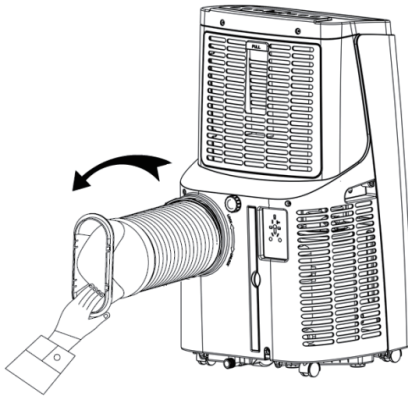

Figure 1
1. Install the heat pipe assembly (as shown in Figure 1):